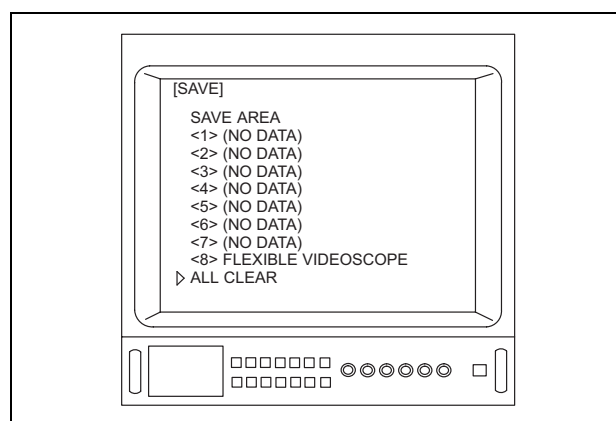

Figure 5.79
9. Depress the menu switch "↵" or the "Enter" key on the keyboard. Then user settings are deleted and the menu shown in Figure 5.79 is displayed on the video monitor.